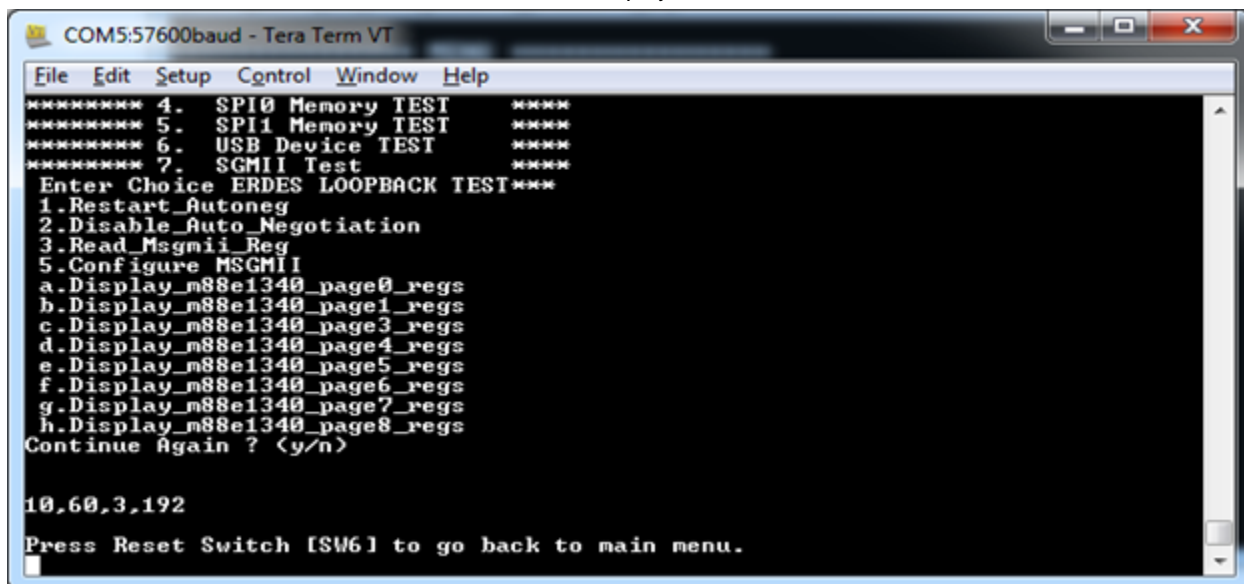

Figure 38 - SGMII Test Passed
- c. A confirmation message is displayed, Press n twice. Refer to Figure 38. When the test is passed, the IP address of the Host PC is displayed.